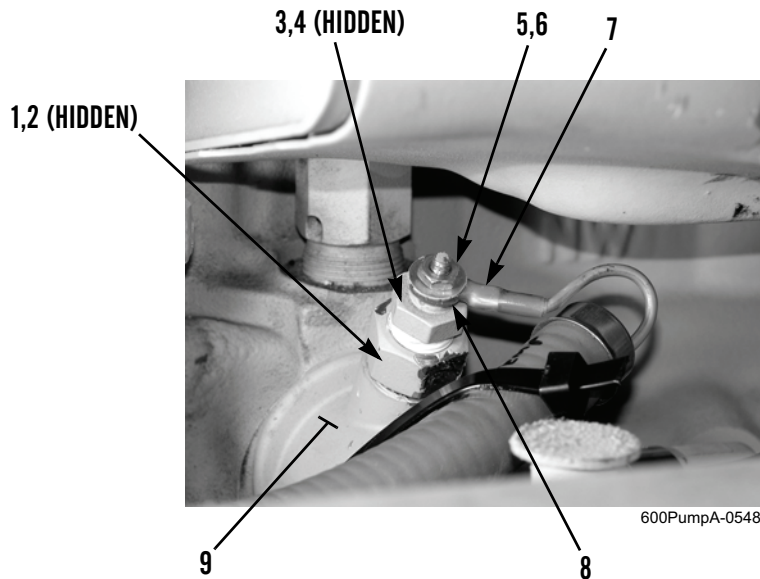

Figure 1. Oil Temperature Sender.
1. Remove nut (Figure 1, Item 5), washer (Figure 1, Item 6), wire (Figure 1, Item 7), and washer (Figure 1, Item 8) from oil temperature sender (Figure 1, Item 3).
2. Remove oil temperature sender (Figure 1, Item 3), sealing washer (Figure 1, Item 4), adapter (Figure 1, Item 1), and sealing washer (Figure 1, Item 2) from oil filter head assembly (Figure 1, Item 9). Discard sealing washers.
1. Install new sealing washer (Figure 1, Item 2), adapter (Figure 1, Item 1), new sealing washer (Figure 1, Item 4), and oil temperature sender (Figure 1, Item 3) on oil filter head assembly (Figure 1, Item 9).
2. Install washer (Figure 1, Item 8), wire (Figure 1, Item 7), washer (Figure 1, Item 6), and nut (Figure 1, Item 5) on oil temperature sender (Figure 1, Item 3).